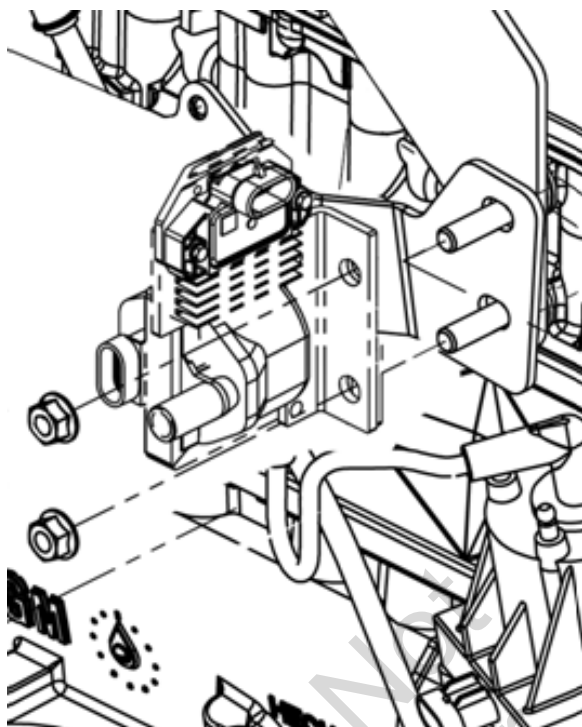

Figure 5
2. Remove all electrical connections to the ignition coil/module assembly (Figure 5).